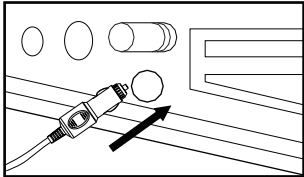

Figure 3
- Use only a 12V DC power source (see Figure 3).